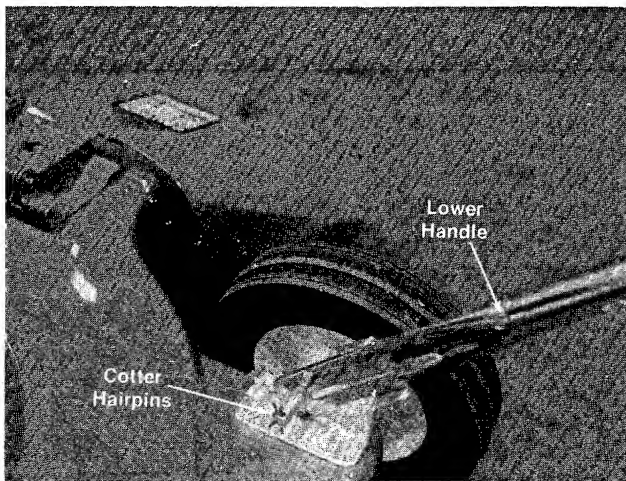

FIGURE 1
2. Attach the lower handle over the pins on the handle brackets located on the rear of the mower. (See figure 1.)